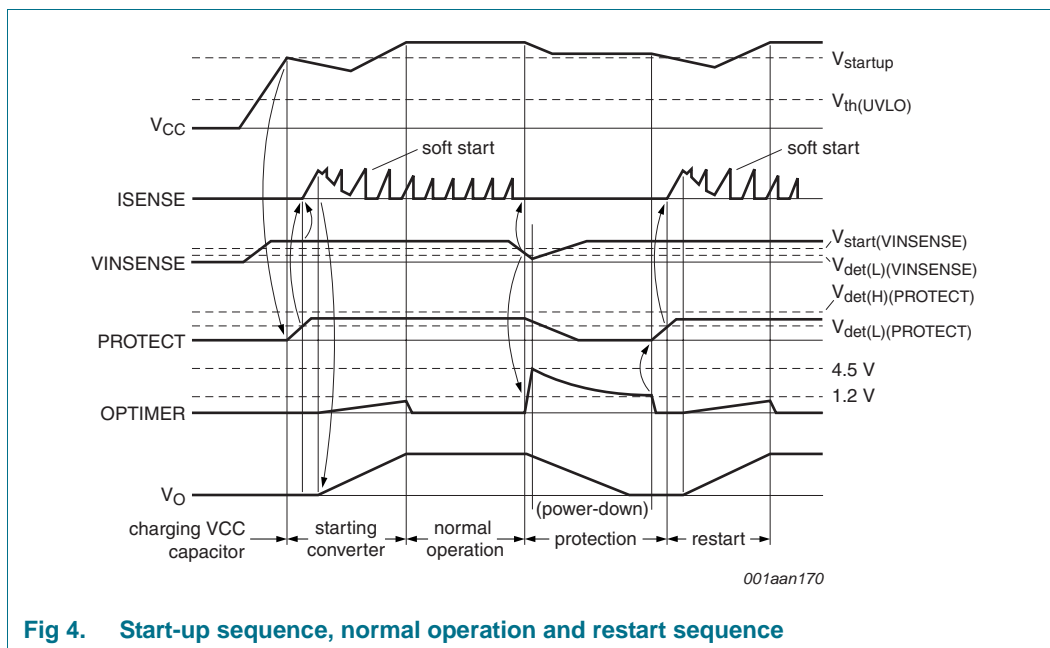

Fig 4. Start-up sequence, normal operation and restart sequence
A restart caused by a protection rapidly charges the OPTIMER pin to 4.5 V (typical). The TEA1738(L) enters Power-down mode until the OPTIMER pin discharges down to 1.2 V (typical). In Power-down mode, the IC consumes a very low supply current (10 μ A typical) and the VCC pin is clamped at 22 V (typical) by an internal clamp circuit. When the voltage on pin OPTIMER drops below 1.2 V (typical) and the VCC pin voltage is above the VCC start-up voltage (see Figure 4), the IC restarts.